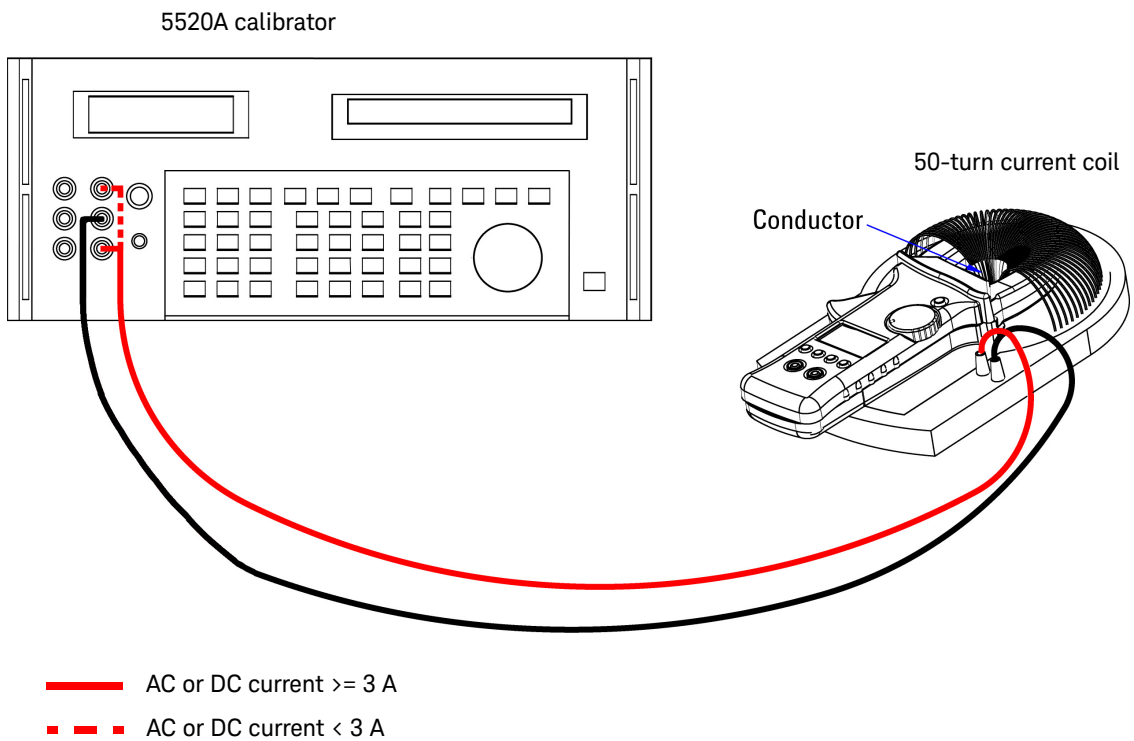

Figure 6-2 Current performance verification test setup
- 1 Place the clamp meter to a 50-turn current coil as per Figure 6-2, “Current performance verification test setup,” on page 93.